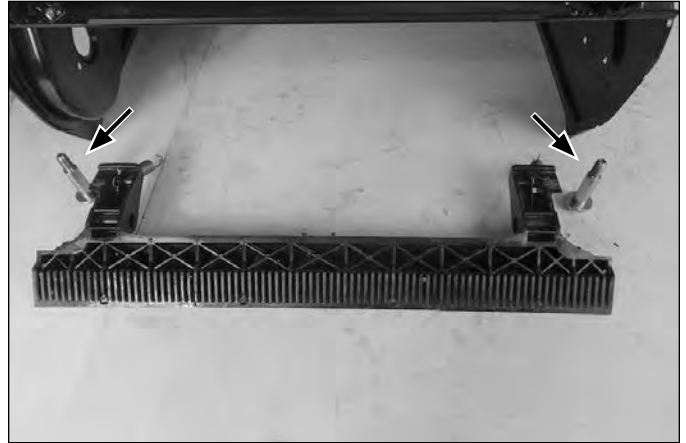

Fig. 029
3. Remove the scraper from housing (Fig. 029).